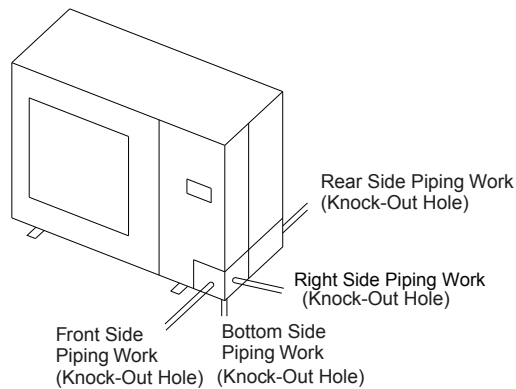

Fig. 5.1 Piping Direction
- (4) Pipes can be connected from 4 directions as shown Fig. 5.1. Make a knock-out hole in the front pipe cover or bottom base to pass through the hole.